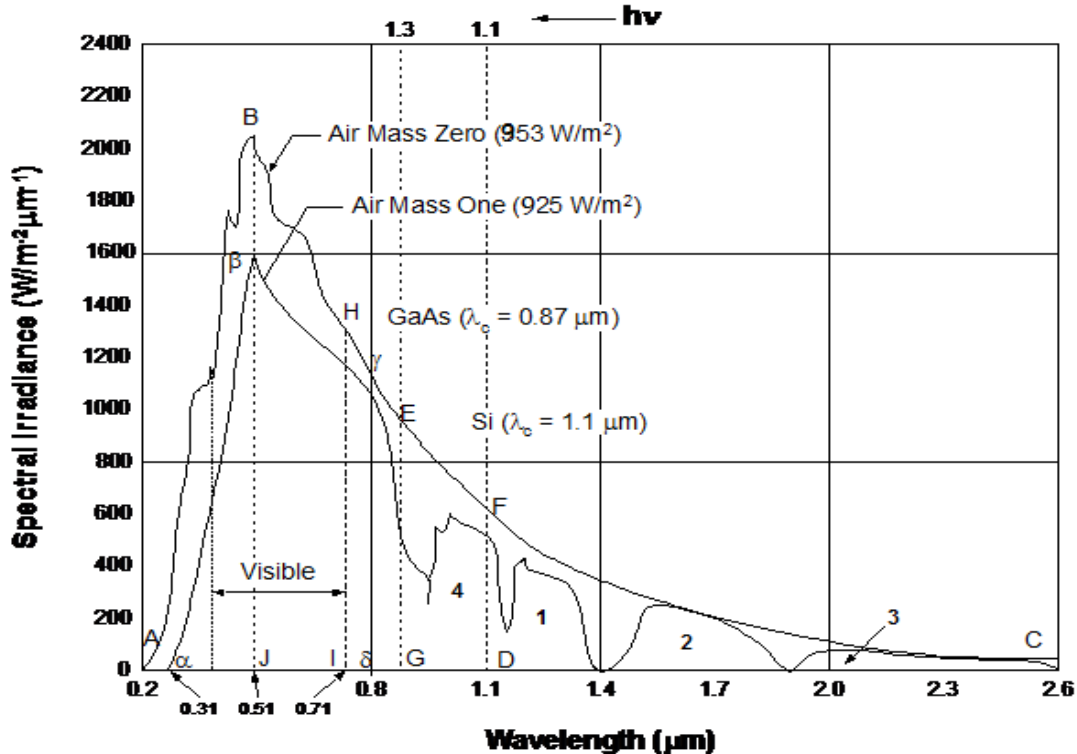

Fig. 4. Solar spectrum under AM 0 and AM1.
Q.5. Figure 4 shows four losses in a solar cell on the bar chart.